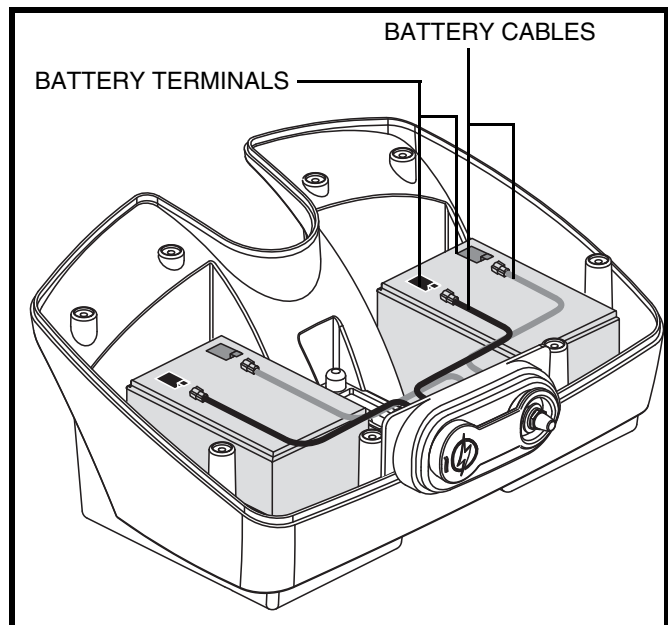

Figure 16. Battery Replacement (12 Ah Pack Shown)
3. Remove the eight (8) screws from the perimeter of the battery pack.
5. Disconnect the black (-) and red (+) battery cables from the battery terminals of each battery. **See figure 16.**